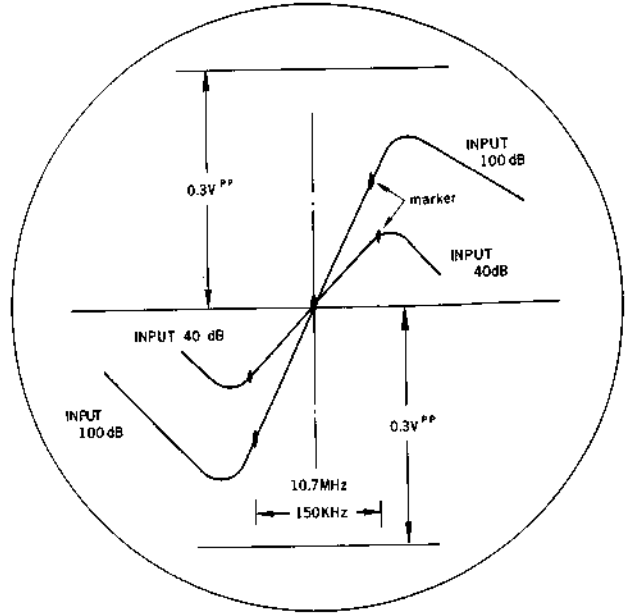

Fig. 5
Adjustment of cores of FM-IF (10.7 MHz) transformers Adjust with 40 dB (100 μ V) output level of the Genescope. Adjust the upper and lower cores of T-601 to T-605 to obtain the wave form shown in Fig. 5 (A). Since this wave form adjustment affects the maximum sensitivity and distortion, make the linearity and peak waveform value as high as possible. Then set the Genescope output level to 100 dB, and make sure that the waveform is symmetrical on both sides.